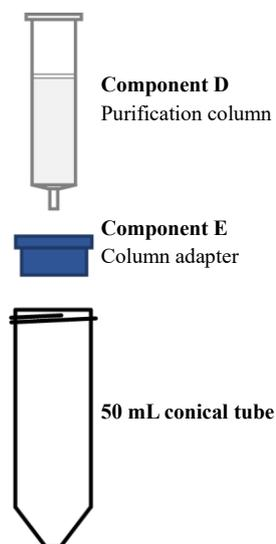

Figure 1. purification system
1. As shown in Figure 1, Connect "Component E, Column Adapter" to a 50 mL conical tube, and stand the assembly in a tube rack.